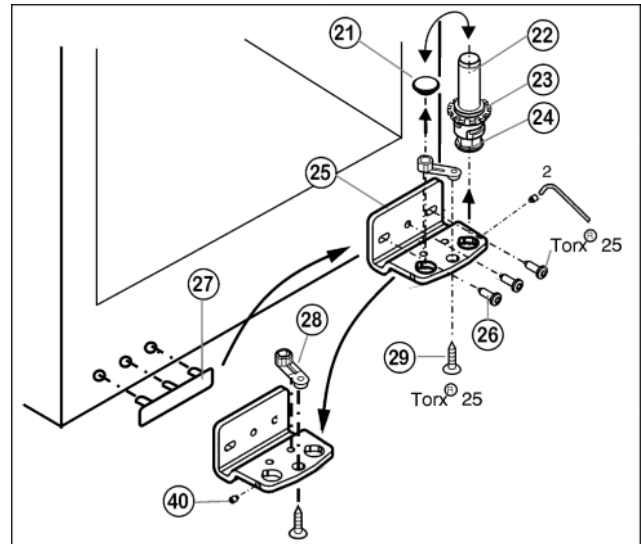

Fig. 6
- ▶ Using the accompanying Allen key, unscrew the threaded pin Fig. 6 (40) by about 1 turn.
- ▶ Turn and lift out the bearing pin Fig. 6 (22) together with the washer Fig. 6 (23) and adjustable-height foot Fig. 6 (24).
- ▶ Lift out the stopper Fig. 6 (21).
- ▶ Unscrew Fig. 6 (26) the turn hinge Fig. 6 (25).
- ▶ Fully unscrew the threaded pin Fig. 6 (40) and screw it in on the opposite side, at the turn hinge, until it is flush outside with the turn hinge.
- ▶ Unscrew Fig. 6 (29) the bearing element Fig. 6 (28) transfer it to the opposite location hole of the turn hinge and screw it firmly into place.
- ▶ Re-insert the stopper Fig. 6 (21) into the other hole.
- ▶ Carefully lift off the cover on the handle side Fig. 6 (27) and transfer it to the opposite side.
- ▶ Screw the turn hinge Fig. 6 (25) firmly into place on the new hinge side, possibly using a cordless screwdriver (with 4 Nm).
- ▶ Re-insert the bearing pin Fig. 6 (22) together with the washer and adjustable-height foot.
- ▶ Tighten the threaded pin Fig. 6 (40).
- ▶ Place the door from above onto the lower bearing pin *Fig. 6 (22)*.
- ▶ Align the door to the appliance housing by way of the two oblong holes in the bottom turn hinge *Fig. 6 (25)*. To do so, unscrew the middle screw.